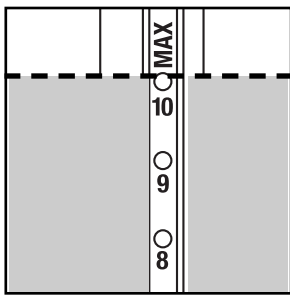

FIG. 6
2. Open water container lid (Fig. 1,A) and pour water into the water container. **Caution:** Watch the water level indicator. Make sure the water level does not reach the letter "M" of the word MAX. If you fill too much water into the tank the carafe will overflow with hot coffee (see Fig. 6).
CAUTION: Make sure the water level does not reach the letter "M" of the word MAX (see Fig. 6). If you fill more water into the water container the stainless steel carafe can overflow with hot coffee which can cause severe injuries.